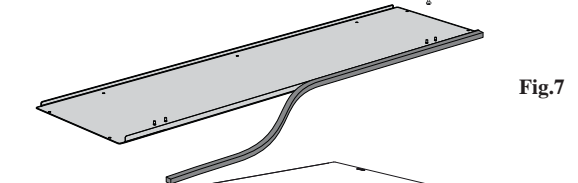

Fig.7
- Stick the adhesive side of the gasket (provided) onto the bend of the ventilation compartment closure panel (fig.7)